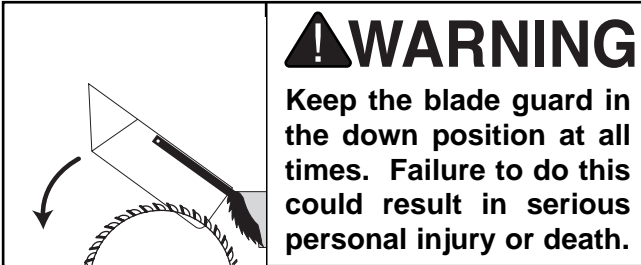

Figure 31. Cross-cut operation.
7. Hold the workpiece firmly against the face of the miter gauge and ease it into the blade as shown in **Figure 31**.